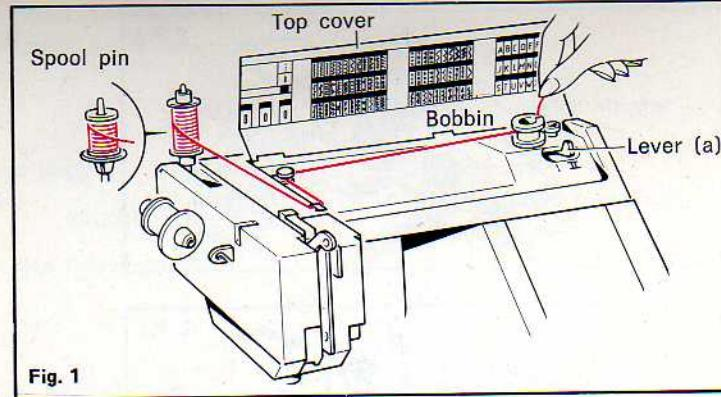

Fig. 1
Lift the top cover (6) and the spool pin (4). Place spool of thread on pin. Follow the thread path as shown in Fig. 1. Pull end of thread through any hole in the bobbin. Move lever (a) to its right (II) position. The needle bar is now inoperative.